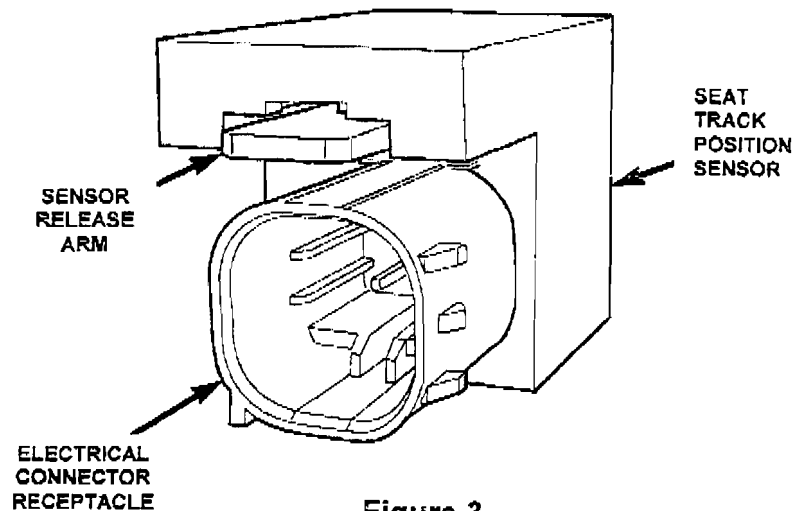

Figure 3
7. Remove the seat track position sensor from the seat track by pressing on the sensor release arm while pulling the sensor forward (Figure 3).